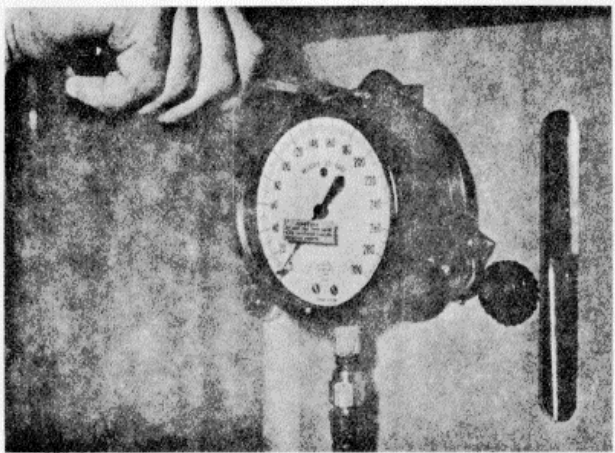

Figure 16H-86. Installing the Gauge to Mounts
6. Assemble the gauge to the mounts and secure it with machine screws and nuts, Figure 16H-86.